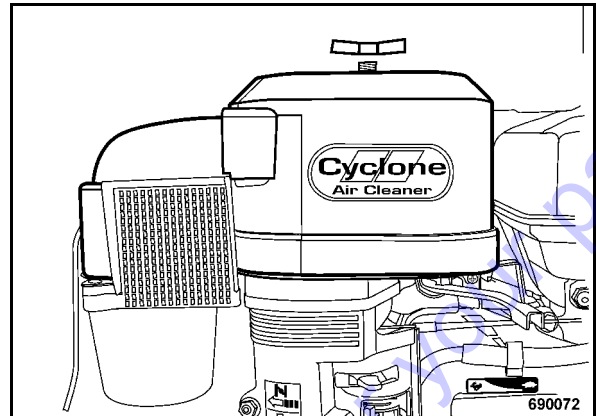

Fig. 37
- Unscrew the wing nut and remove the housing cover (Fig. 37).